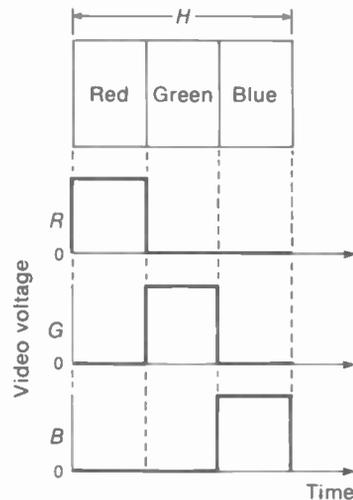

FIGURE 8-3 *R*, *G*, AND *B* VIDEO SIGNALS FOR RED, GREEN, AND BLUE COLOR BARS. *H* INDICATES ONE HORIZONTAL SCANNING LINE FOR WIDTH OF PICTURE.
the *C* signal is decoded by demodulation. This detected output is then combined with the luminance signal to recover the original red, green, and blue video signals for the color picture tube. More details of the *R*, *G*, and *B* video signals are illustrated in Figs. 8-3 to 8-5.
**Color video amplitudes.** In Fig. 8-3, the separate *R*, *G*, and *B* video signals are shown for a horizontal line scanned across the image with vertical red, green, and blue bars. The bars just represent picture information of their particular color. The *R* signal voltage has its full amplitude while the red bar is scanned. However, there is no *R* video signal for the green or blue information. Similarly, the *G* video voltage is produced only when green picture information is scanned, and the *B* video voltage indicates blue information.